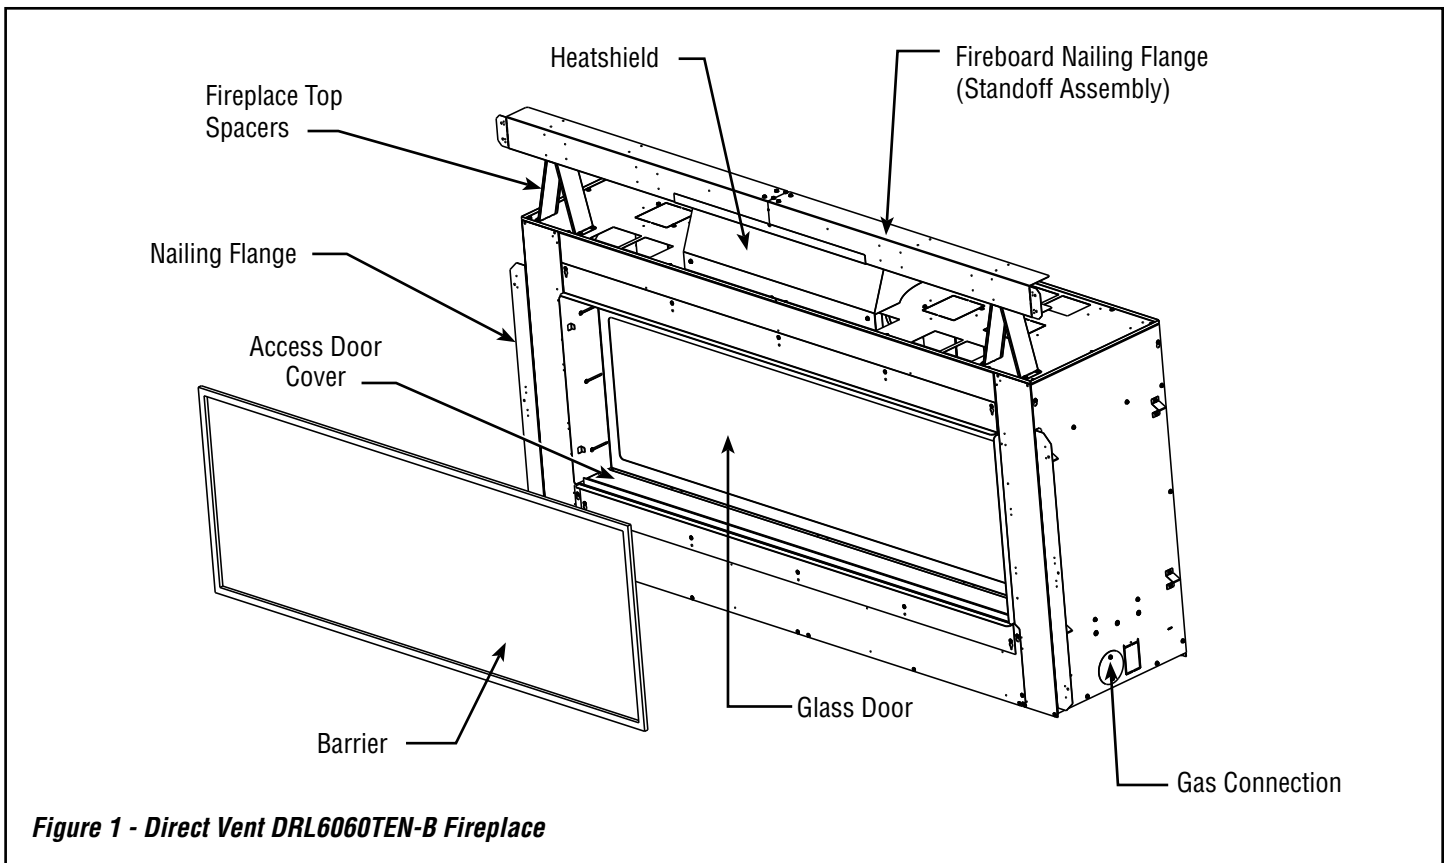

Figure 1 - Direct Vent DRL6060TEN-B Fireplace
- Three (3), 5 lb. bags, Platinum Glass Media
- One (1), Hand Held Remote Control
- Four (4), AA Batteries
- Three (3), AAA Batteries
- One (1), Fireboard Top
- One (1), Fireboard Bottom
- Two (2), Fireboard Sides
- Thirty (30) Self Drill Bugle Drywall Screws
- One (1) Standoff Assembly (*see Figure 1*)
- One (1) Heat Shield (*see Figure 1*)
- Twelve (12) #10 Hex Head Screws